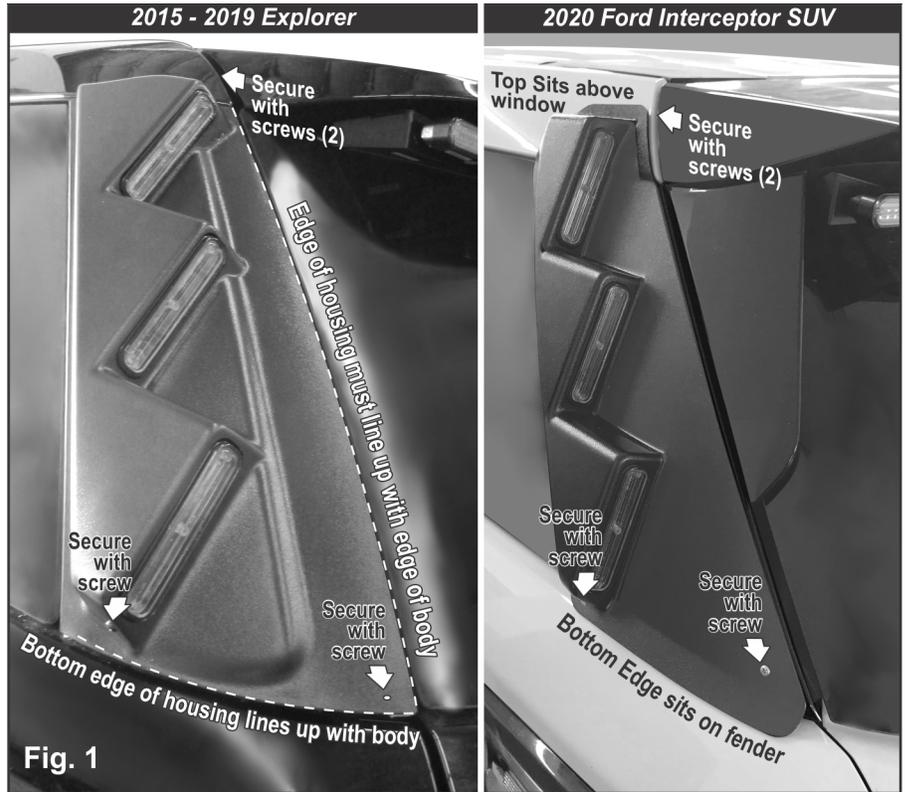

Fig. 1
1. Place lightbar housing onto the D-pillar. The trimmed edge of the housing should be flush with the bottom and outer edges of the D-pillar (Fig. 1). The 2020 will sit on the vehicle differently.
3. Remove the three 6-32 X 3/8 Phillips Pan Head Machine Screws that hold the Outer Edge housing to the mounting bracket (Fig. 1). Carefully remove the housing only. The mounting bracket remains on the vehicle.